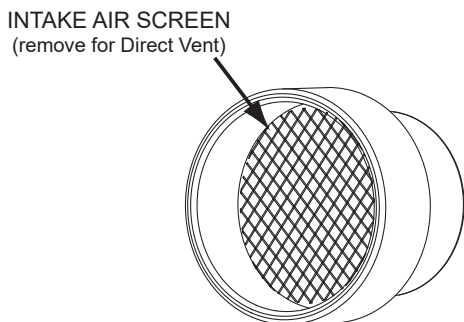

Figure 33. Intake Air Screen
12. Ensure that the intake-air screen on the intake-air connection is removed before connecting the intake-air pipe to the water heater. See Figure 33.